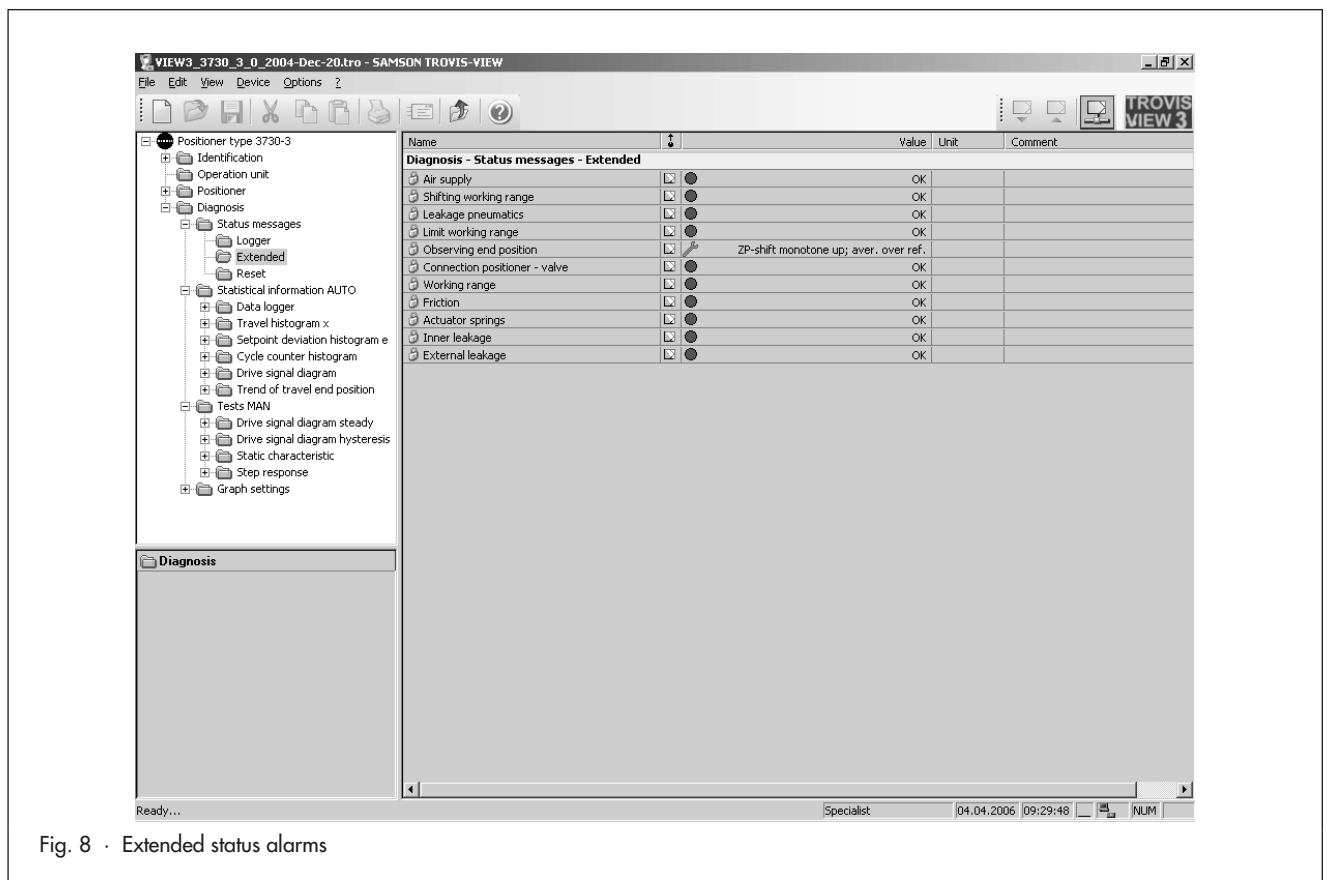

Fig. 8 · Extended status alarms
2.4 Plain text diagnostics (Fig. 8)